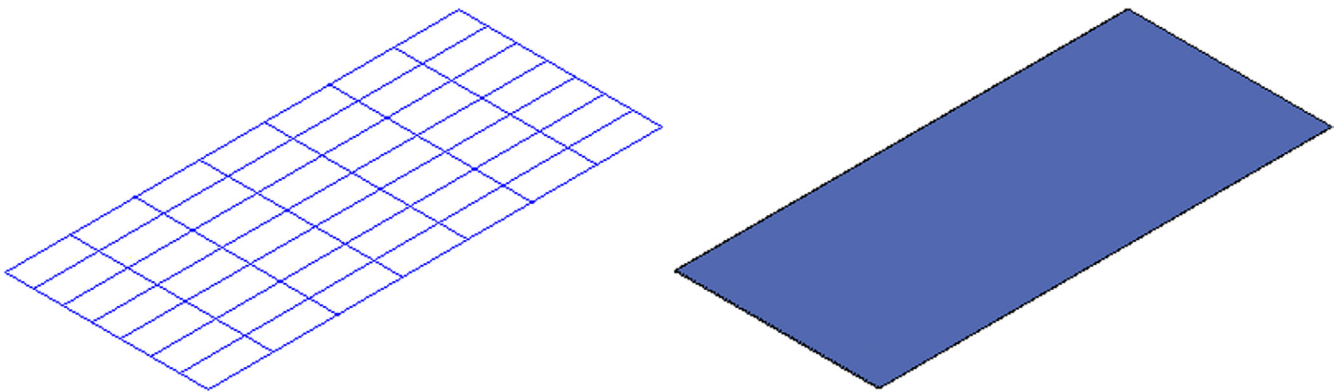

FIGURE 26.2
- Step 3.** Select the diagonally *opposite* corner of the rectangle. A surface is formed, as seen in the wireframe and shade modes in Figure 26.2.